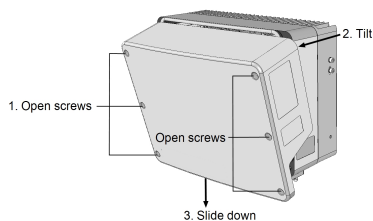

Figure 19: Removing the inverter cover
5. Open the inverter cover (see *Figure 19*).